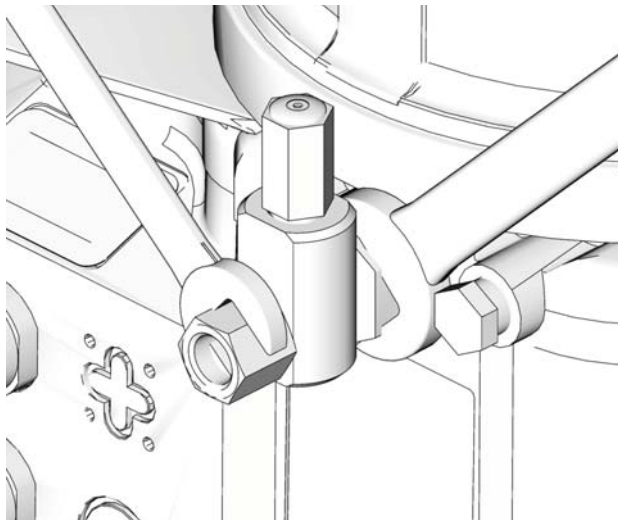

FIG. 11
- Always use two wrenches working in opposite directions when connecting anything to pump element or auxiliary fittings. See FIG. 11 for an example.